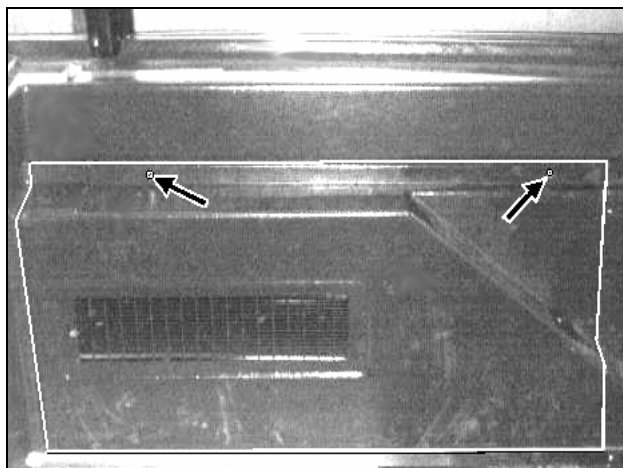
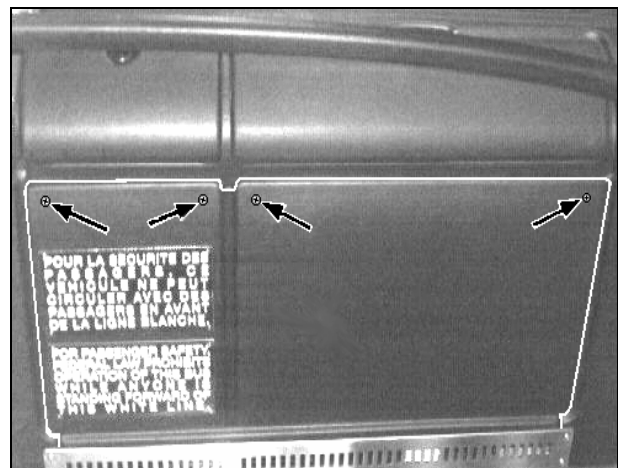
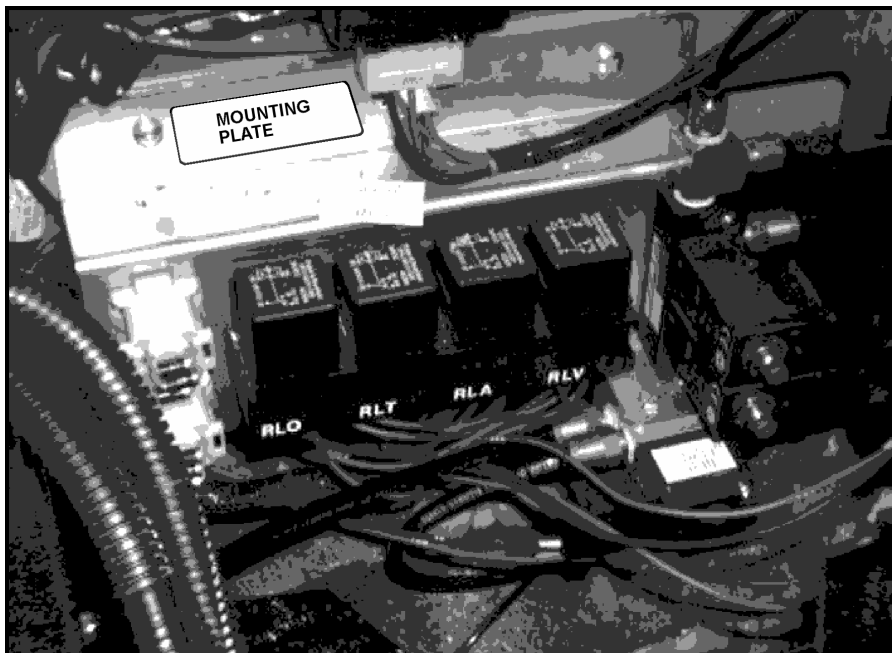
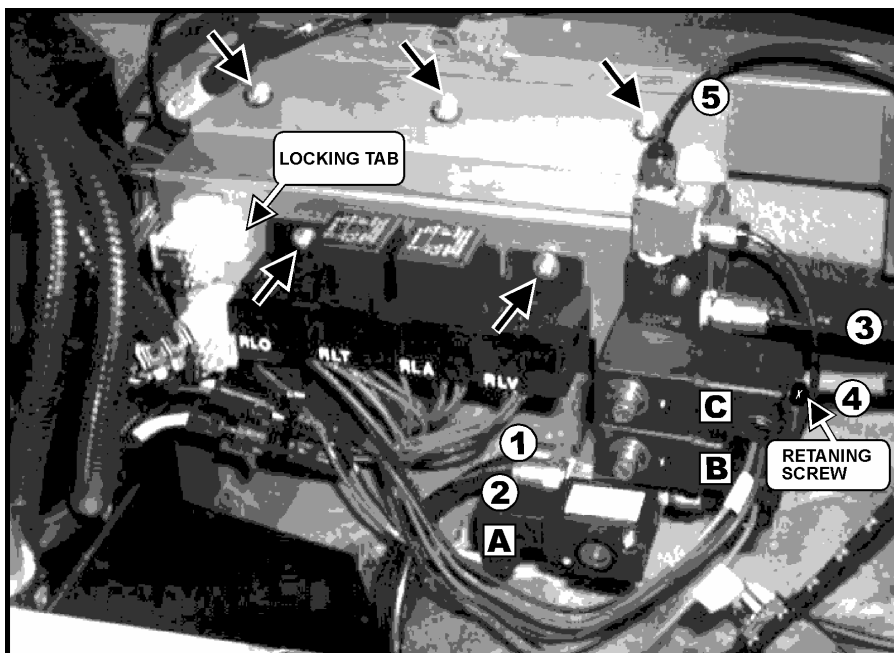

FIGURE 1a: ACCESS PANEL (EARLIER MODELS).
FIGURE 1b: ACCESS PANEL (LATER MODELS).
FIGURE 2: MOUNTING PLATE ACCESS.
FIGURE 3: DISCONNECTION FOR REMOVING THE MOUNTING PLATE.
2. The tall finishing panel in front of the vehicle must be released. With the help of a Phillips #2 screwdriver, remove the two (2) screws which hold the finishing panel upper part, having previously removed the handrail (Fig 1a), otherwise remove the four (4) retaining screws on the top of the panel (Fig 1b), and this, depending on the vehicle year of manufacturing. Pull the panel upward to release it. Provide proper lighting prior to working in the compartment. (Fig. 2).
3. Extract the two relays which sit on the two end of the four units row by pulling them upward, to provide access to relay row mounting screws. (Fig 2) (Fig. 3).
6. Unscrew the relay row two (2) mounting screws taking care not to drop them in the compartment (Fig 3).
7. With the help of a flat-tipped long screwdriver, push the white plugs locking tabs through the mounting plate in order to extract them from the mounting plate (Fig. 3).
8. Remove the mounting plate three (3) retaining screws, always taking care not to drop them and then take the mounting plate out of the compartment (Fig. 3).